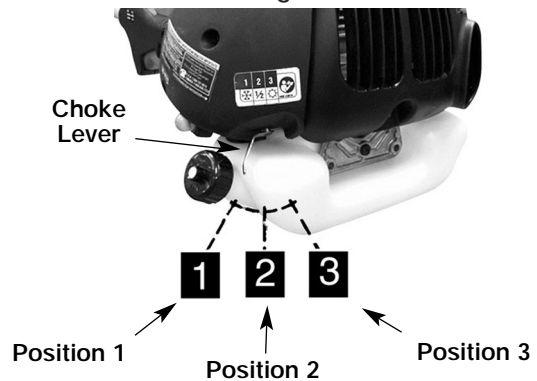

Fig. 7
3. Move choke lever to Position 1 (Fig. 7).
2. Move choke lever to Position 1 (Fig. 7).